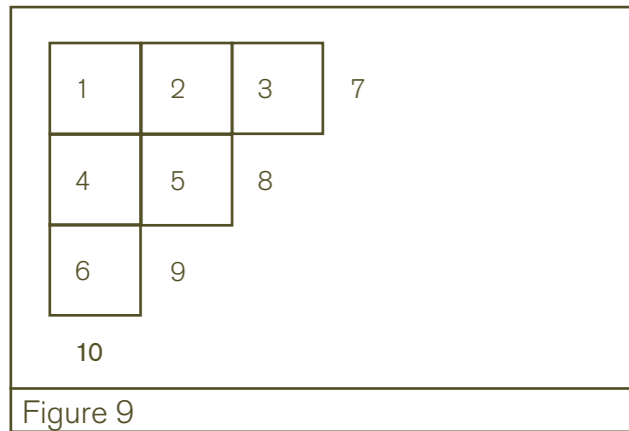

Figure 9
4.5 Complete Each Grid (see Fig. 9).